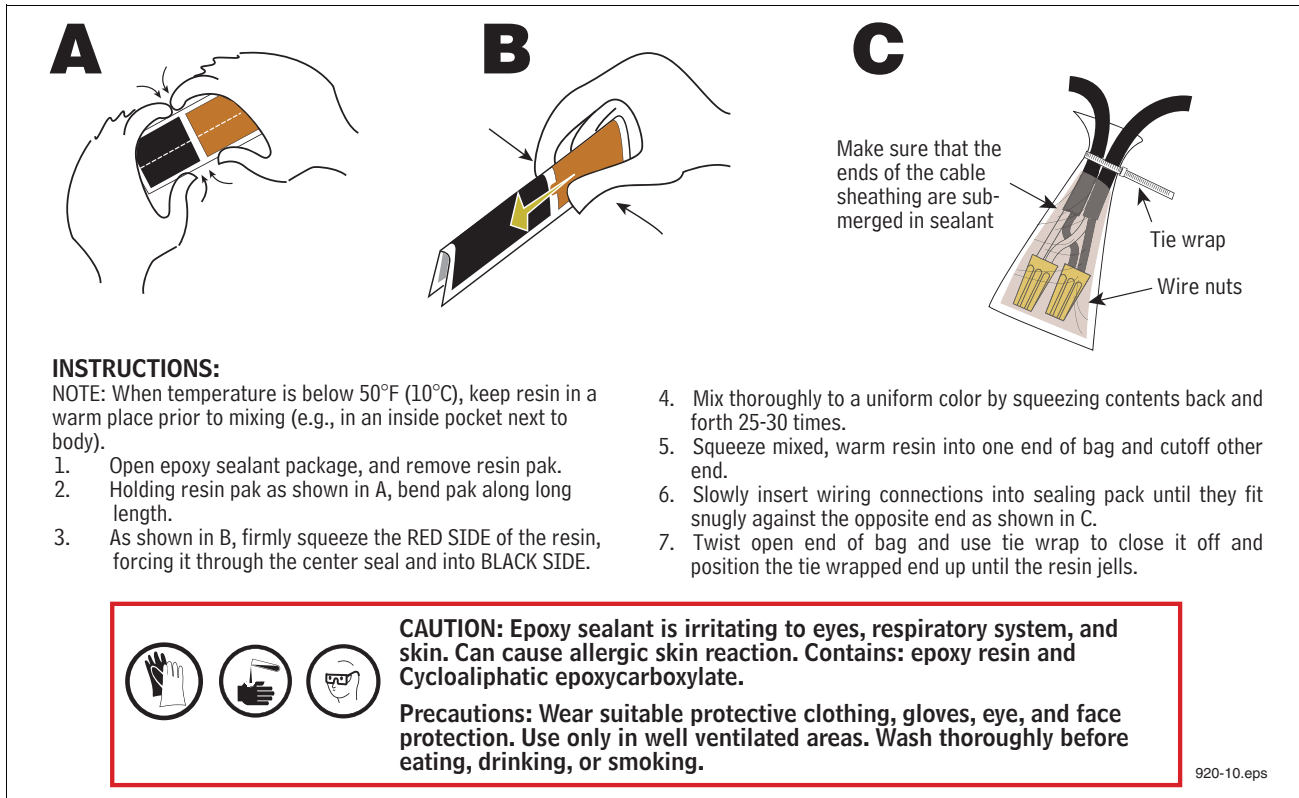

Figure 6. Epoxy sealing CCVP vapor valve field wiring connections
12. Following the instructions in Figure 6, seal the wire nuts of each of the two cable connections in the epoxy pack provided.